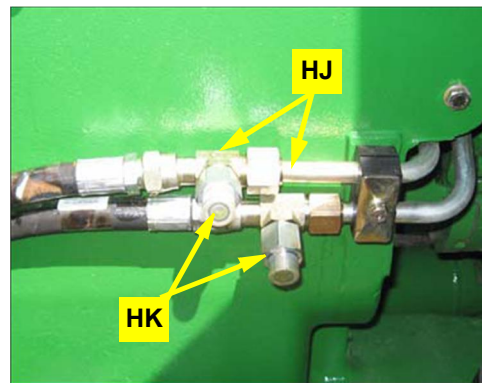

Figure 4c: Adapters and run tees installed in steering lines (30 series)
- c. Install adapters **HK** on run tees **HJ** then install the run tee assemblies between the steel and rubber sections of the steering lines (Figure 4c).